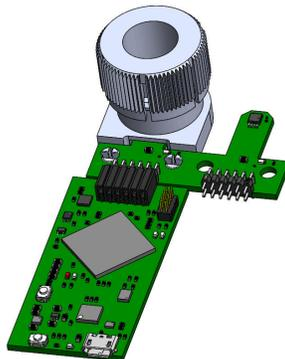

Figure 3-10. Rotate & Push Module on EVM
- b. Use the Rotate & Push module by attaching it to the EVM (see Figure 3-10). For more details on how to use this module, see Section 3.2.2.
1. Attach the Rotate & Push module to the EVM as shown in Figure 3-10.